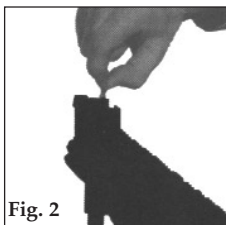

Fig. 2
2. Insert a single pellet into the breech end of the barrel (Fig. 2), closed end first until the skirt is flush with the face of the breech. **Caution:** This is a potential pinch point if the barrel should close unexpectedly! To prevent injury during loading do not move the safety to the "Fire" position. Fingers should be outside the trigger guard until barrel is returned to locked position and airgun is ready for firing.